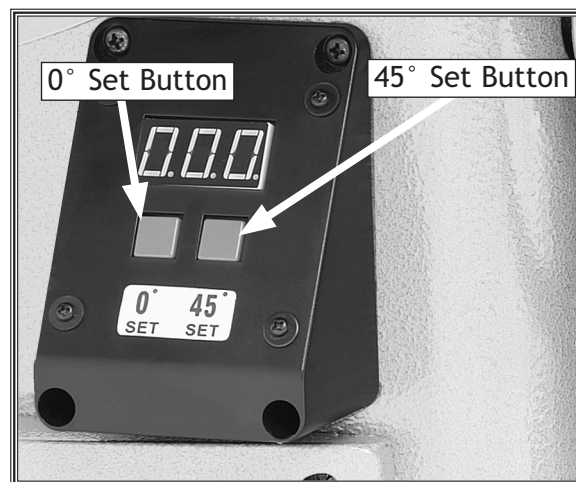

Figure 69. Digital readout.
2. Move the blade angle to 0° and press the 0° SET button (**Figure 69**) for several seconds until the readout displays 0.00.